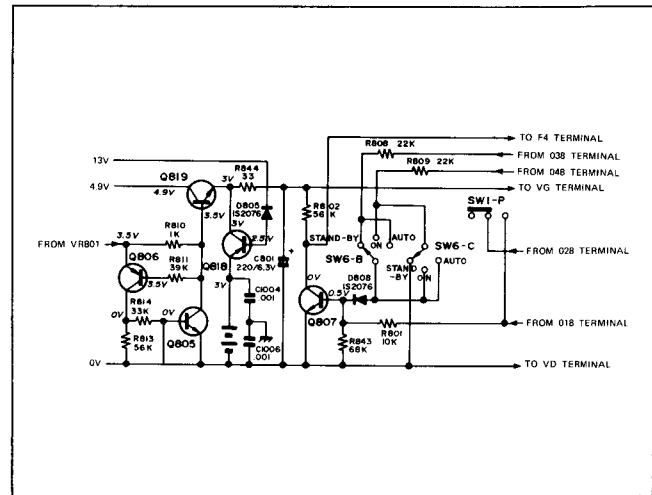

Figure 27
■ **CONTROL UNIT POWER SUPPLY CIRCUIT (See Figure 27 and 28)**